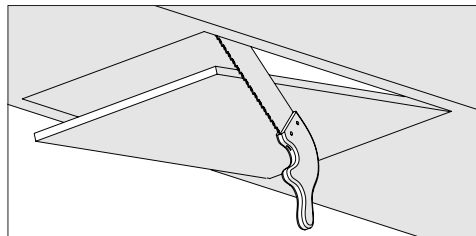

Figure 2
- Cut the lower surface of the cabinet where the hood will be installed in the dimensions specified in the technical drawing (Figure 2).